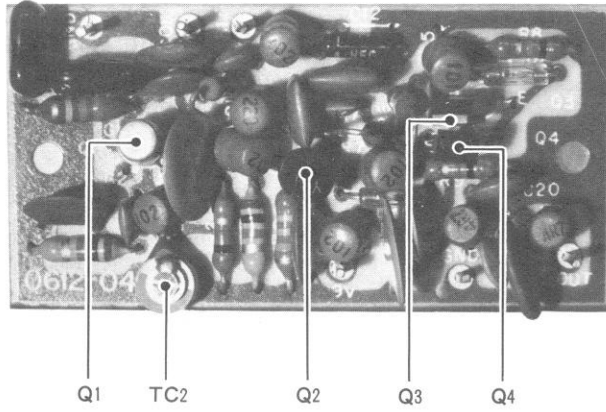

FIGURE 12. VFO Board
5.2 VFO BOARD (X40-1020-10) (See Figure 12)